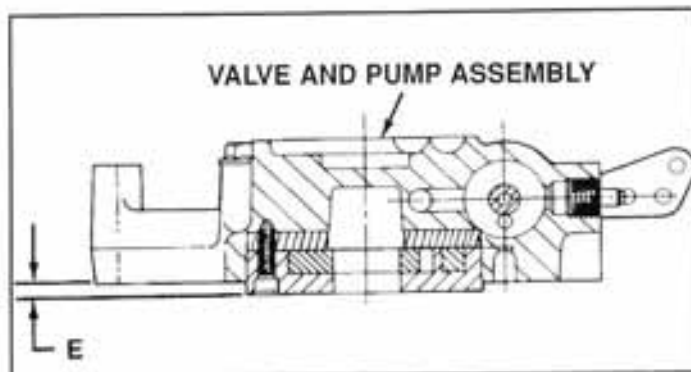

Figure 2-6. Determine Input Shaft Bearing Thickness
1. If the original valve and pump assembly (4) are to be reinstalled, return all shims to their original positions.
2. If pump assembly (202) is replaced, determine shim thickness for input shaft (28) bearing as follows:
- a. Measure and record dimension E, figure 2-6 on both the new and old pumps.